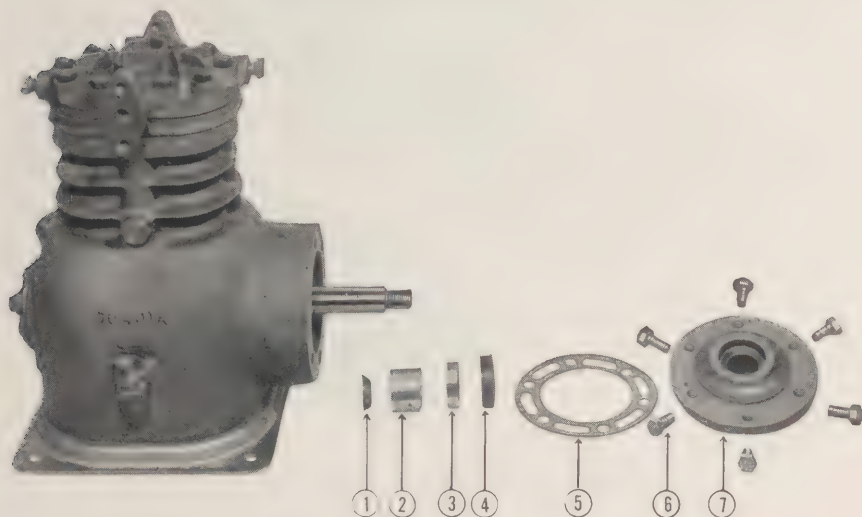

Figure 47. Eccentric shaft seal assembly removed.
- (5) Remove the shaft seal assembly consisting of the eccentric shaft seal gasket, shaft seal ring, shaft seal shoulder and shaft shoulder gasket (fig 47).
- (1) Assemble the shaft seal gasket, 9R27114, in the recess of the shaft seal ring, 9R27112, and slide assembly (gasket end first) over shaft (fig 47).
- (2) Coat the 2 faces of the sealing surfaces with refrigerant oil (OR).
- (3) Assemble shaft seal shoulder, 9R27116, and shaft shoulder
gasket, 9R27118, into the shaft seal cap, 9R27124, and slide into position over the shaft. Use a new shaft seal cap gasket, 9R27136 (fig 47).